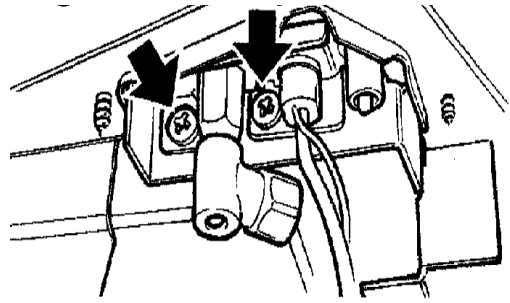

Figure 41. Pilot unit removal
5. Remove the first screw securing the dust cage to the pilot unit & burner. Carefully remove the dust cage and place aside. (See figure 41).
6. Remove the second screw securing the pilot unit to the burner. Remove the pilot unit and place it aside (See figure 41).